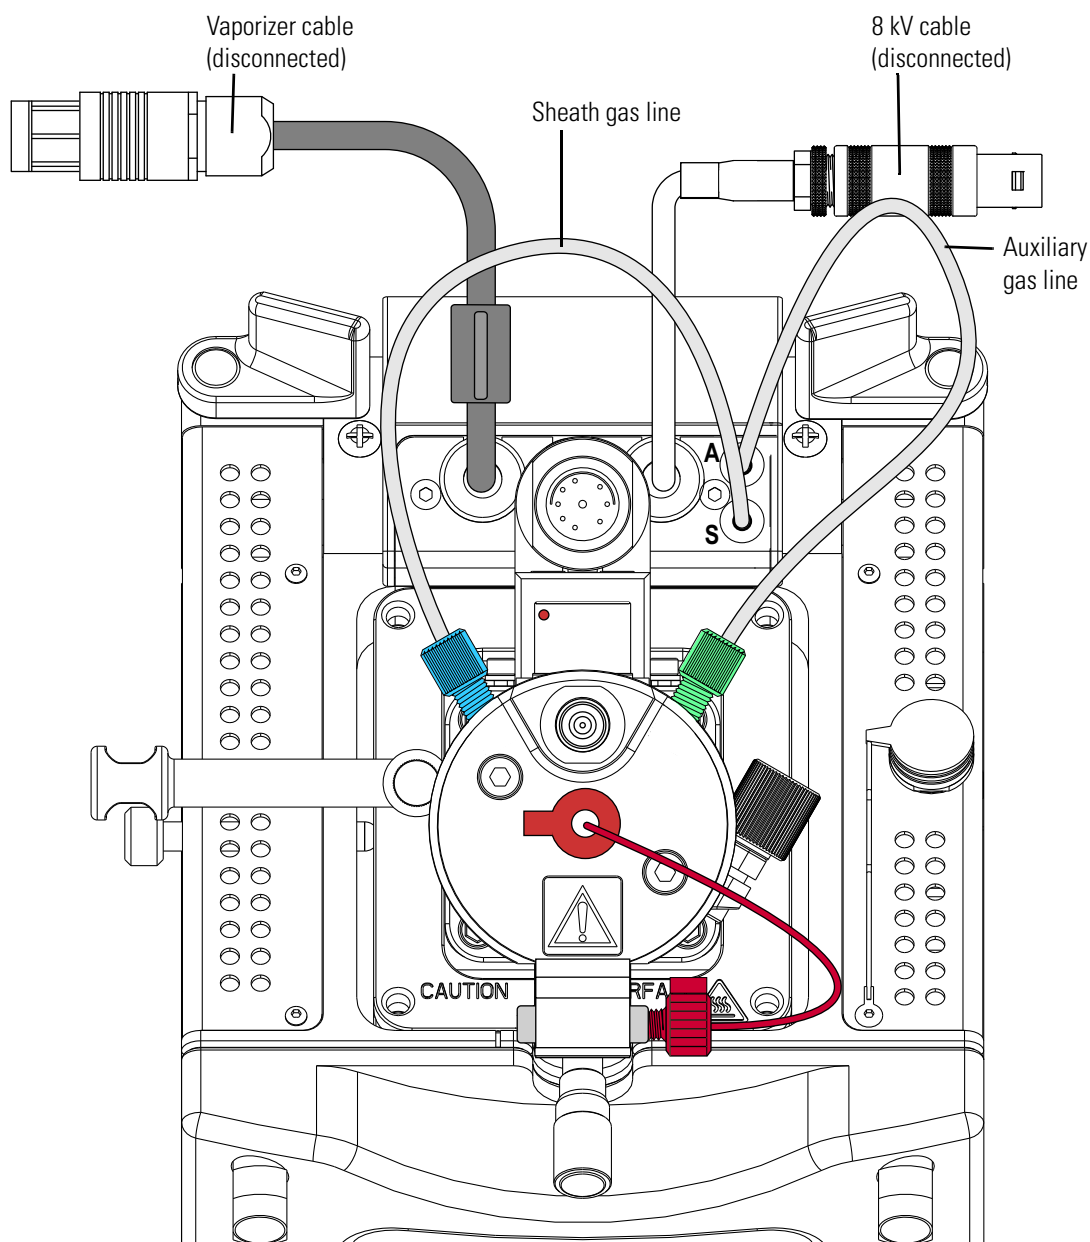

Figure 8-18. Sheath and auxiliary gas lines connected to the probe (top view)
4. Disconnect the nitrogen gas lines (Figure 8-18):
- Disconnect the auxiliary gas fitting (green) from the auxiliary gas inlet (A) on the probe.
- Disconnect the sheath gas fitting (blue) from the sheath gas inlet (S) on the probe.